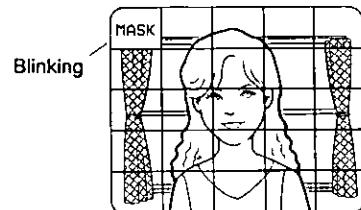

Fig. 61
- To mask this area, press the Setup Mode Button (SET UP). The word "MASK" appears in this area as shown in Fig. 61.